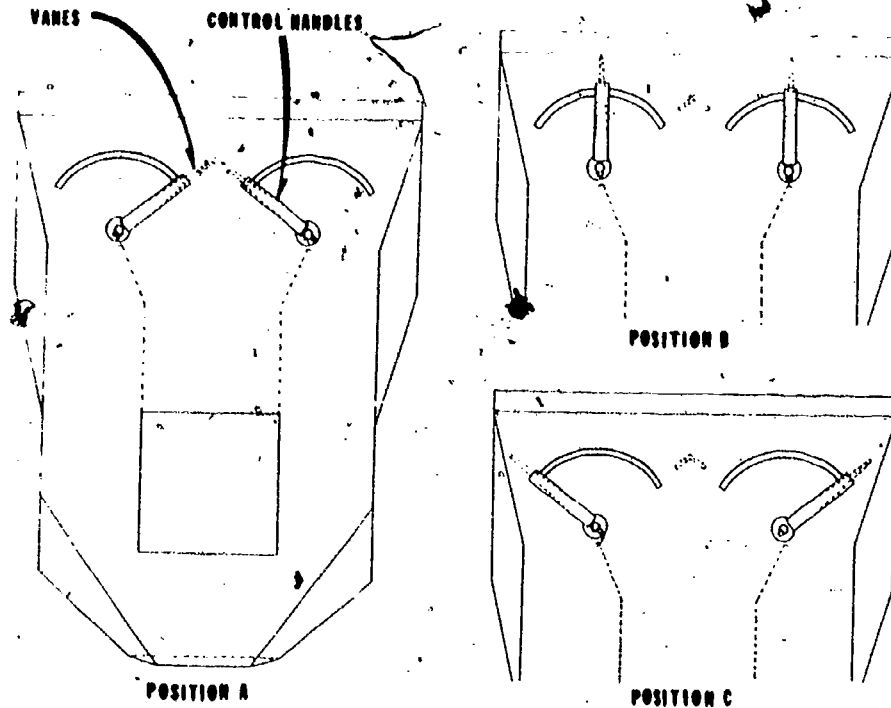

Fig 6-18. Hopper vane controls.
- (4) Hopper vane controls (fig 6-18). The hopper section is equipped with a pair of adjustable vanes that run longitudinally-with the screen directly below the sand deck. They are controlled by handles on the outside of the hopper. The vanes can be set to mix 100% of the sand with the crushed material by placing them in position A or can remove 100% of the sand by placing them in position C. Position B shows the vanes making a 50-50 split of the sand.